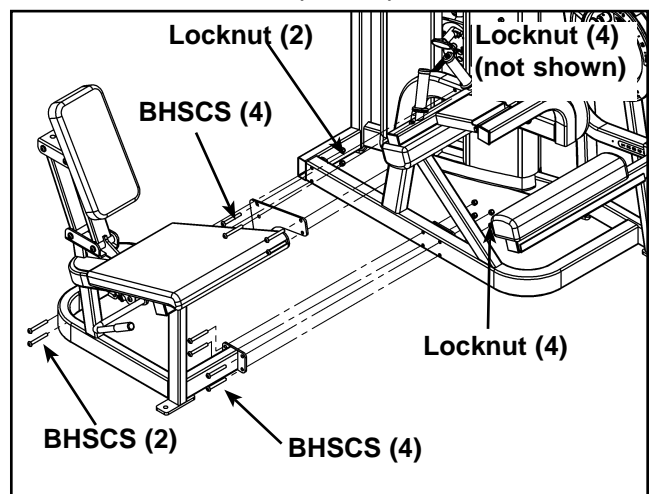

Figure 1
- B. With an assistant, carefully remove the ten Button Head Socket Cap Screws (BHSCS) securing the two halves of the frame. See Figure 1.
D. With an assistant, carefully attach each half together using the ten BHSCS removed in step 4B. See Figure 1.